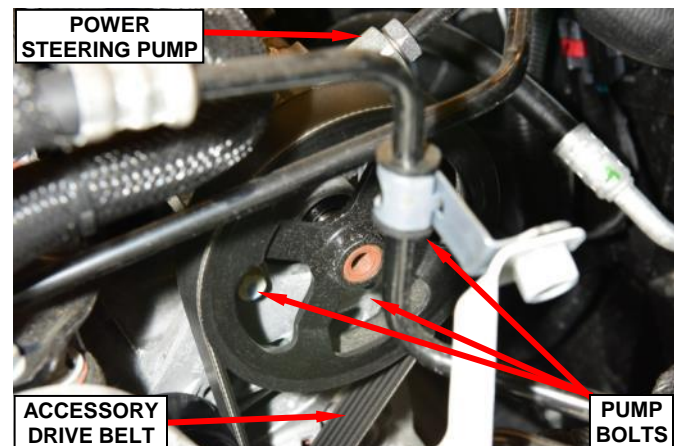

Figure 78 – Power Steering Pump
35. Remove and save the three power steering pump mounting bolts accessed through the pump pulley openings (Figure 78).